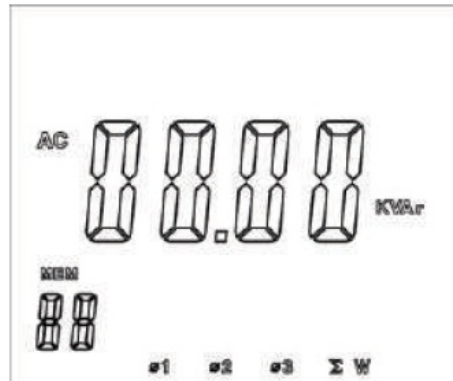

Figure 14
7. Press ▲ as figure 14 to step through in sequence three phase sum of active power+three phase sum of reactive power, and three phase sum of power factor + 3 phase sum of apparent power.